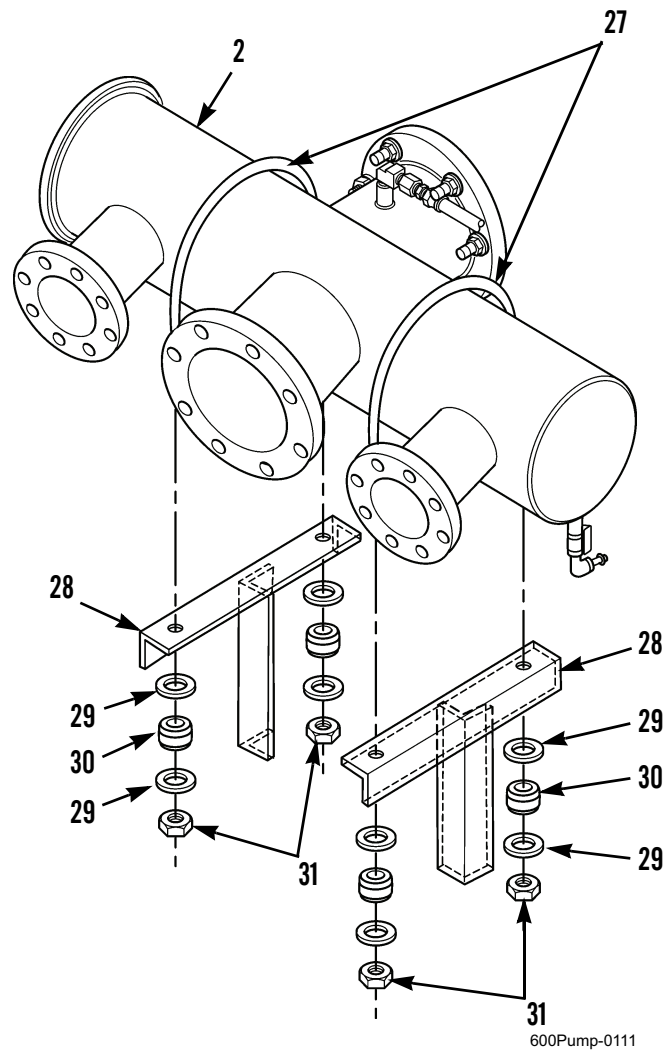

Figure 11. Suction Manifold Mounting.
1. If removed, install two rubber strips to two welded mounting brackets (Figure 11, Item 28), using adhesive.
4. Lift suction manifold (Figure 11, Item 2) and place on two welded mounting brackets (Figure 11, Item 28), with single suction manifold outlet flange aligned with inlet flange of pump casing (Figure 10, Item 25).
6. Install two U-bolts (Figure 11, Item 27) over suction manifold (Figure 11, Item 2) and through welded mounting brackets (Figure 11, Item 28). Install two shock mounts (Figure 11, Item 30), four washers (Figure 11, Item 29), and two nuts (Figure 11, Item 31) on each U-bolt. Tighten nuts to 60 lb-ft (81 Nm).